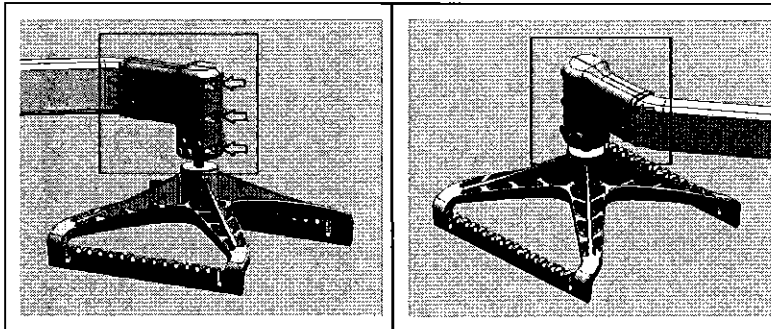

Figure 4.2: Disassemble the hoist covers
4.3 Disassemble the hoist covers, as illustrated in figure 4.2.